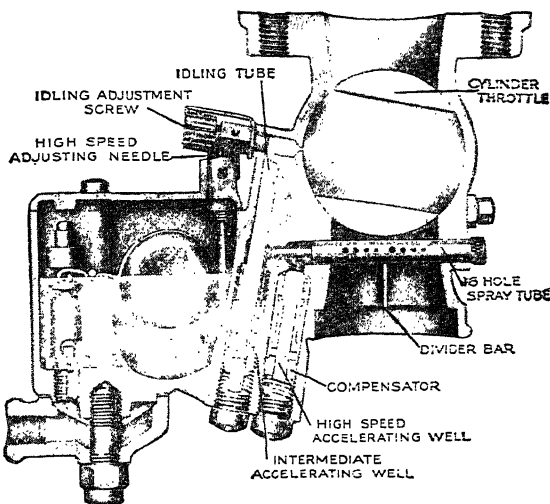

Fig. 100. Cross Sectioned View of Winfield Carburetor at Idling Position
**Cylinder Throttle.** The cylinder throttle, Fig. 100, serves a double purpose. First, the simple function of a throttle; and second, and of great advantage, as a variable venturi—a venturi that gives correct efficiency for any throttle opening. This throttle gives a very high velocity to the air stream at closed or semiclosed throttle position. As the throttle opens, it allows more air to enter—natu-